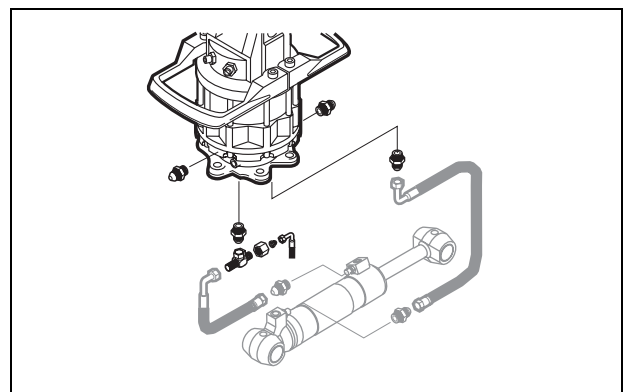

Fig. 22 Assemble the hydraulic adaptors to the rotator
4. Assemble the hydraulic adaptors for the grapple saw to the rotator. *See Fig. 22*.